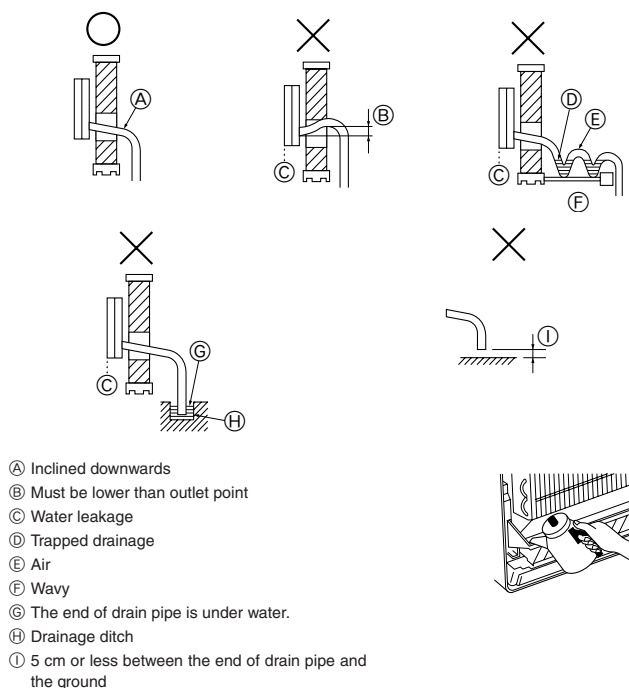

Fig. 4-4
- (E) Left-side piping
- (F) Lower piping
- (G) Right-side piping
- (H) Knockout hole for left-side piping
- (I) Corner box
- (J) Knockout hole for lower piping
- (K) Through hole for the remote controller's cable
- (L) Knockout hole for right-side piping
4.3. Drain piping (Fig. 4-4)